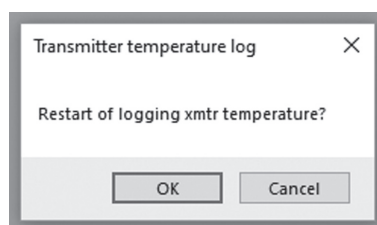

Fig.158
- ③ The converter's internal temperature is saved to the log approximately once every 2 minutes, and log entries begin to be repeatedly overwritten after 64 entries are saved. If the transmitter's internal temperature exceeds 90°C, then a "Transmitter temperature alarm" will occur, and after 32 log entries are saved from that point, the saving of logs will halt. To restore the system from this state, click the "Reset" button to display a message box (Fig. 158).